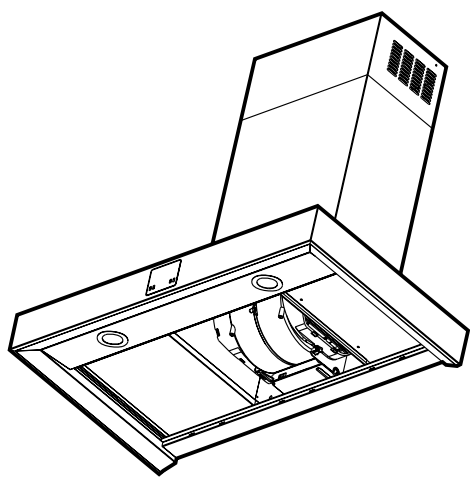

Fig. 3
- c. If Carbon filters have not been previously installed, place one active carbon filter on each side so that they cover the grates protecting the rotor on the motor. Then turn the centre handle in the clockwise direction (Fig. 3) to lock the filters in place.